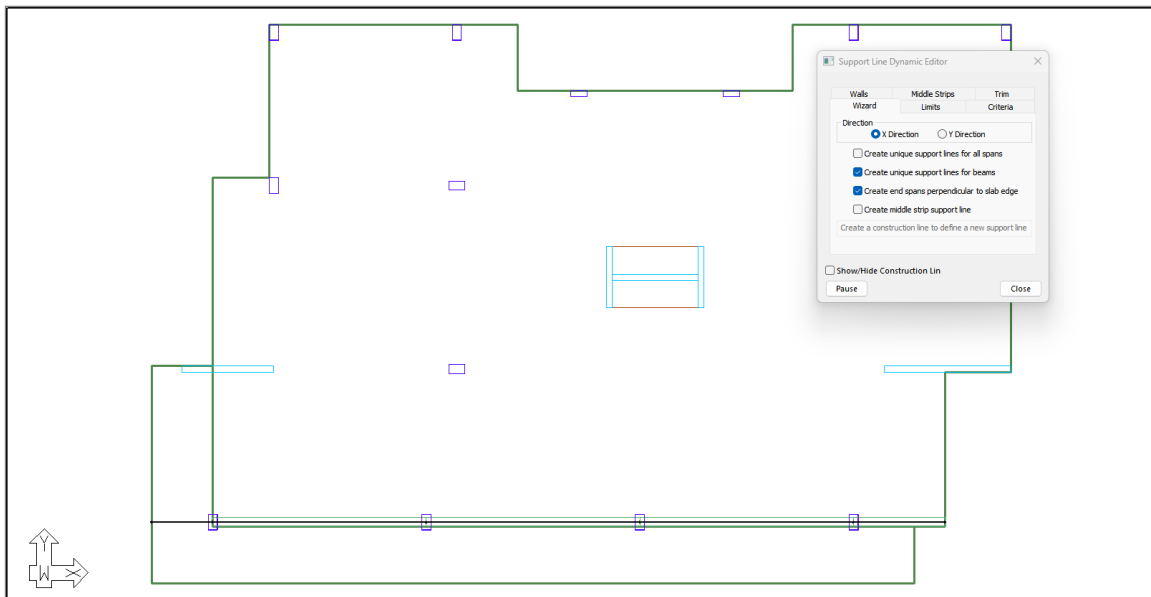

FIGURE 9-8
- Click the **Enter** key on your keyboard to accept the construction line and have the software create the first support line. The user should now have one X-direction support line in the model as shown in **FIGURE 9-8**.